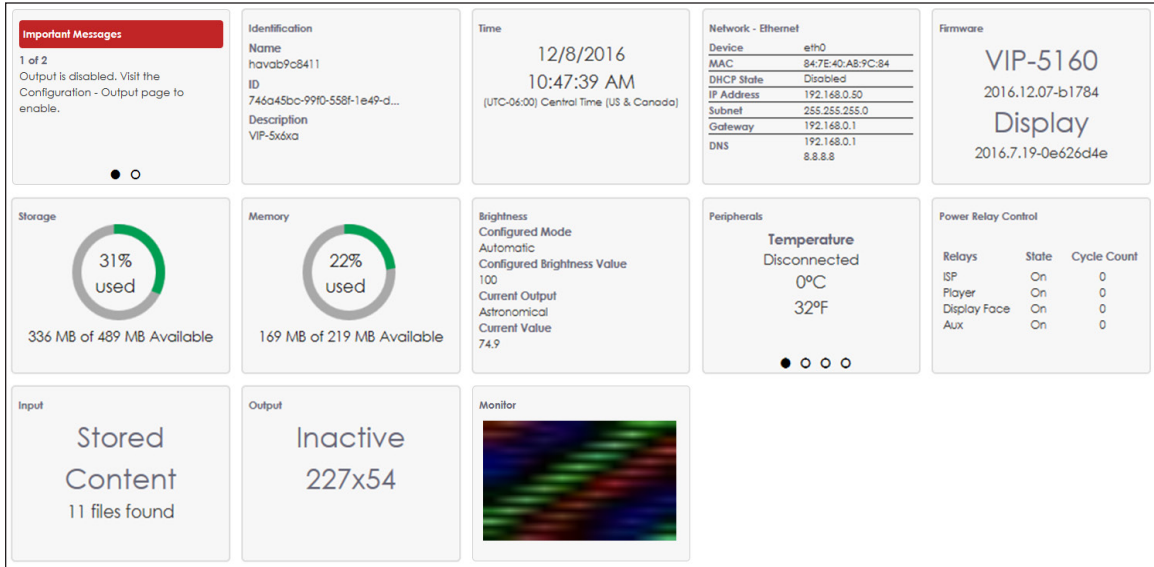

Figure 24: Dashboard Status Tiles
The **Dashboard** icon  shows status files for the Video Image Processor (VIP). These status tiles include standard tiles that are always visible and an **Important Messages** tile that is shown only when an important setting has been changed recently within the configuration settings. Refer to **Figure 24**.
- **Important Messages** - This tile warns the operator that an important setting has changed. The number of important messages is indicated by the number listed at the top of the tile and the dots at the bottom of the tile. Refer to the **Important Messages** tile in **Figure 24**. Normally this tile is not present.
- **Peripherals** - This tile provides information about any associated peripheral device. If more than one peripheral device is configured, the tile contains more than one page of information. Refer to the **Peripherals** tile in **Figure 24**. Click an open circle at the bottom of the tile to open information about another peripheral device. Click the tile itself to open the **Peripherals** link under the **Configuration** menu.